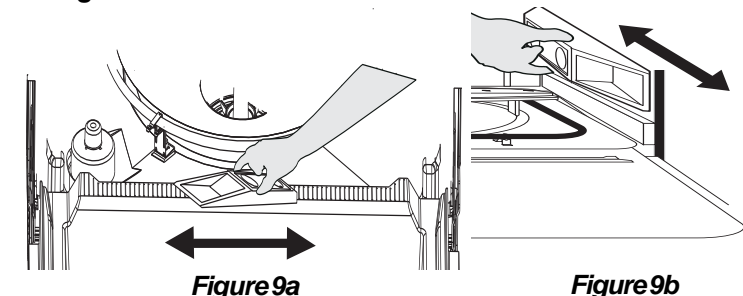

Figure 9a Figure 9b
6. Remove lower rack to check that dishwasher is level from side to side by placing a level on the bottom of the inner door. See Figure 9a.